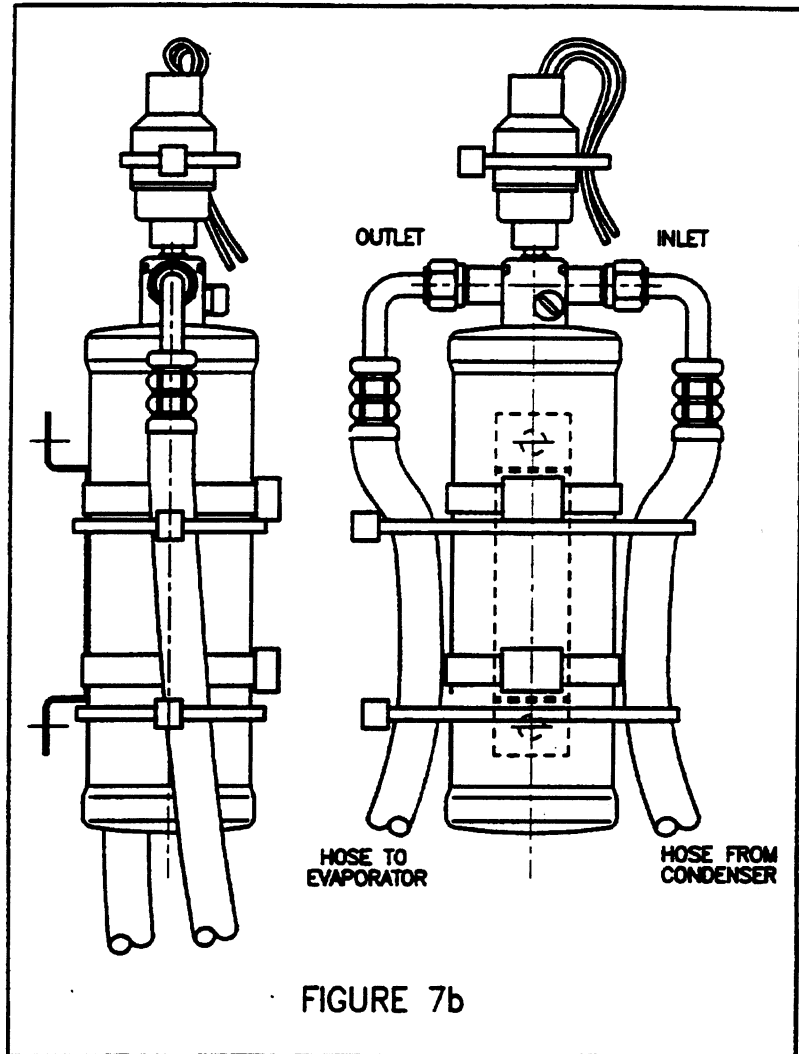

FIGURE 7b
- 4) Attach refrigerant hoses to rec./drier (see Fig. 7b)
- 5) Secure binary wiring to side of binary with (1) 8" tie wrap (see Fig. 7b).
- 6) Secure refrigerant hoses to receiver/drier using (2) 15" tie wraps (see Fig. 7b).
1. Install binary wire harness assembly (RD-5-6689-0) onto binary switch located on top of receiver/drier and secure with tie wrap. See Figure 7B.
9. Insert connector onto relay (RD-5-4417-0). Using (1) M6 screw and (1) M6 lockwasher, fasten relay on interior of electronic control box near cab wall. Use existing M6 weldnut in forward section.